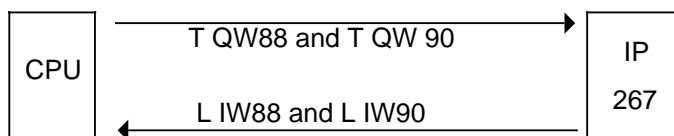

Figure 5-1. Typical Data Exchange Between the CPU and the IP 267 (in Slot
- If you use the IP 267 in slot 3 of the programmable controller, for example, bytes 88 to 91 in the process output image (PIQ) and the process input image (PII) are used for communication between the CPU and the IP 267. The other four bytes remain unused. You can reference these addresses with the STEP 5 load and transfer operations (Figure 5-1.), to exchange input/output messages between the CPU of the programmable controller and the IP 267.